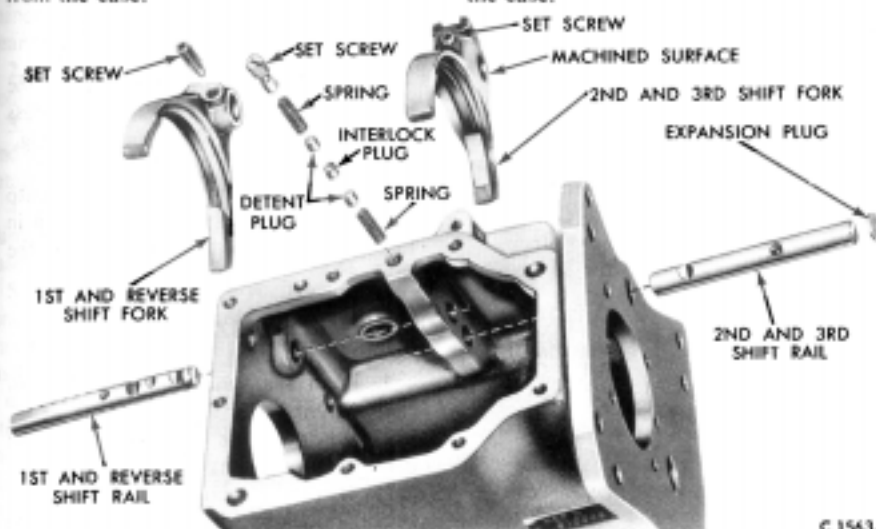

FIG. 12—Shift Rails and Forks Disassembled
10. Remove the set screw (Fig. 12) that retains the detent springs and plugs in the case. Remove the detent spring and plug from the case.
14. Lift the interlock plug (Fig. 12) from the case with a magnet.
15. Tap on the inner end of the second and third shift rail to remove the expansion plug (Fig. 12) from the front of the case. Remove the shift rail.
11. Place a detent plug spring and a plug in the case (Fig. 12). Place the second and third-speed synchronizer in